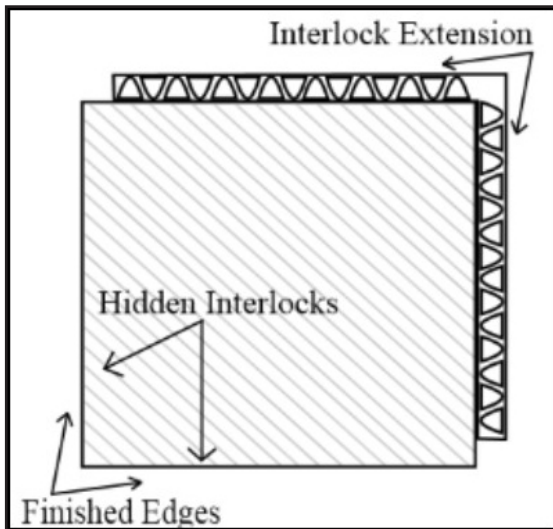

Figure 1 Free Style Tiles
The interlock system uses two "Interlock Extensions" that are visible from the top of the tile, and two (2) "Hidden Interlocks" under the Finished Edges that are visible from the bottom of the tile. (See Figure 1) To install, you will mate the Hidden Interlocks on one tile with the Interlock Extensions on adjacent tiles.
Like all tile products, layout planning begins by finding the center of the room or area to be covered and establishing lines to guide your layout. Unlike ceramic or vinyl tile products, FreeStyle installations should start in a corner of the room with the Finished Edges (See Figure 1) facing the walls. Use the steps outlined below to establish Control Lines and the Starting Point for your installation. Using these methods will provide an installation with balanced cut rows along each wall. Start the process along your longest straightest wall. Determine which corner will be your starting point. Do not start in a corner with a doorway.
- Carefully mark a point at the Finished Edge of the last tile. Note: You must mark that line at the Finished Edge of the tile, not at the edge of the Interlock Extensions (See FIGURE 1)